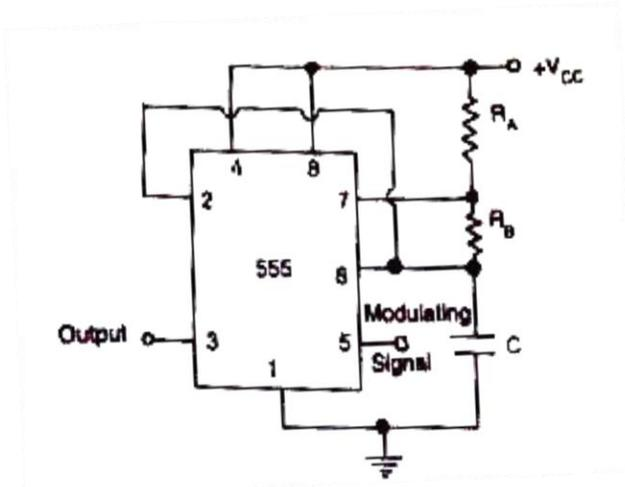

Figure 22: Pulse position modulator
- The pulse position modulator can be constructed by applying a modulating signal to pin 5 of 555 timer connected for an Astable operation as shown in Fig. 22.